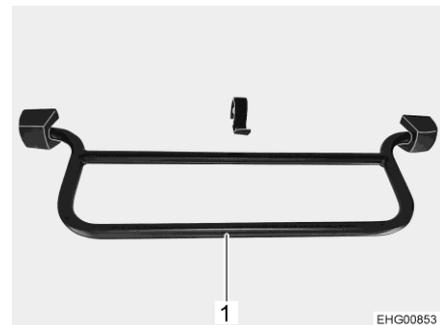

Fig. 28 Bar, elevating roof at the rear (C 530)
- Pull the bar (Fig. 28,1) upwards. The elevating roof swivels upwards autonomously.